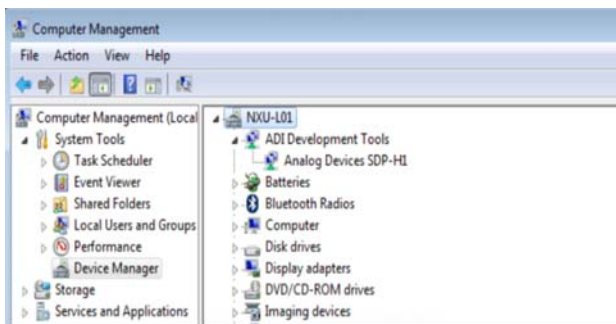

Figure 16. Device Manager
- If the board does not appear to be functioning, ensure that the ADC evaluation board is connected to the SDP board and that the SDP board is recognized in the **Device Manager**, as shown in Figure 16.